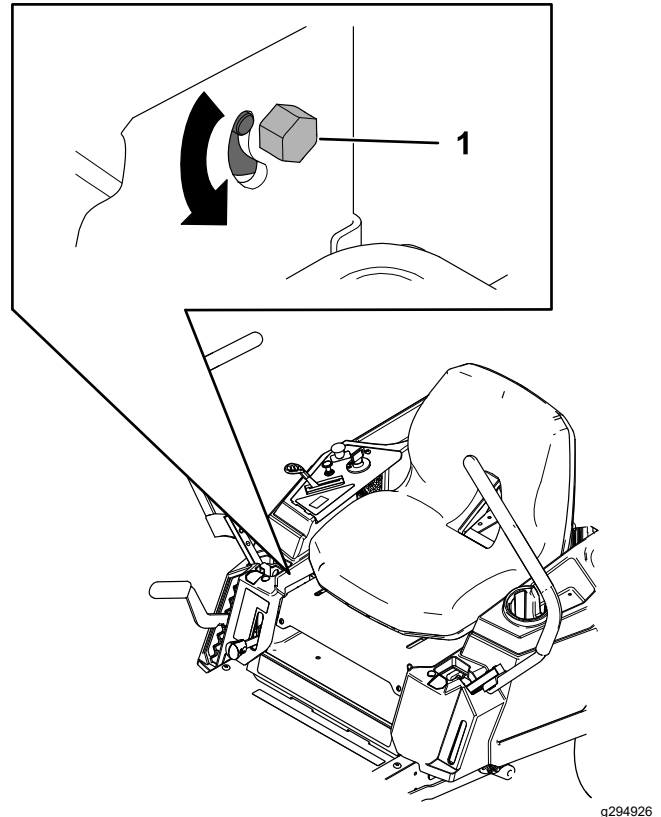

Figure 49
3. Locate the tracking-adjustment bolt near the motion-control lever on the particular side that needs adjusting (Figure 49).